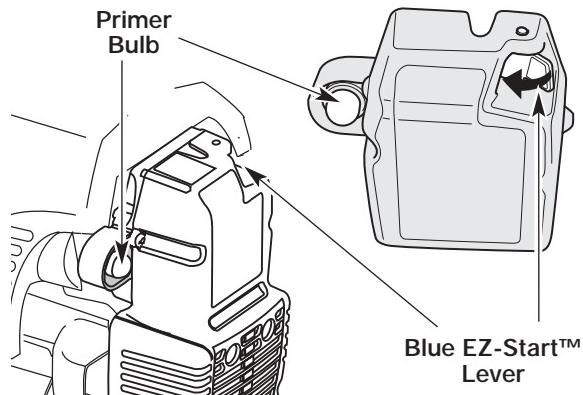

Fig. 11
2. Fully press and release the primer bulb 10 times, slowly. Some amount of fuel should be visible in the primer bulb and fuel lines (Fig. 11). If you can't see fuel in the bulb, press and release the bulb as many times as it takes before you can see fuel in it.
4. Push the blue EZ-Start™ Lever towards the primer bulb until it clicks and locks into place (Fig. 11).